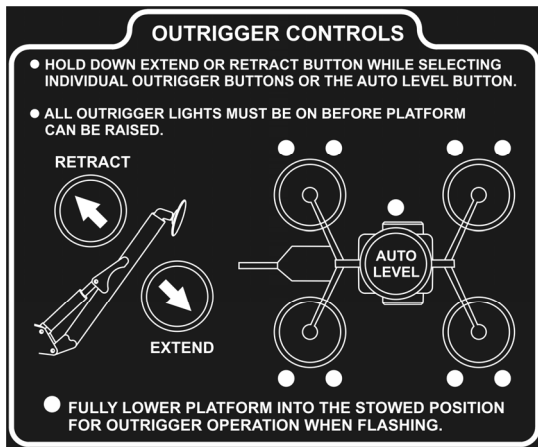

Figure 3-4. Outrigger Controls
- ❑ Verify that the control status indicator LED is lit. If the control status indicator LED is not lit or is flashing, the outrigger buttons will not work. A flashing control status LED indicates that one or more of the booms is raised and needs to be stowed. Refer to Figure 3-1 and Figure 3-4.